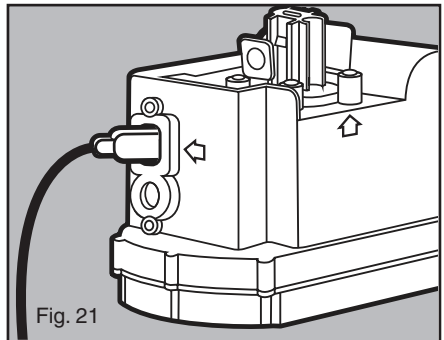

Fig. 21
22. Push the signal cable plug into the motor module receptacle. The connection is secured when the yellow arrow on the cable is no longer visible. (see figure 21)